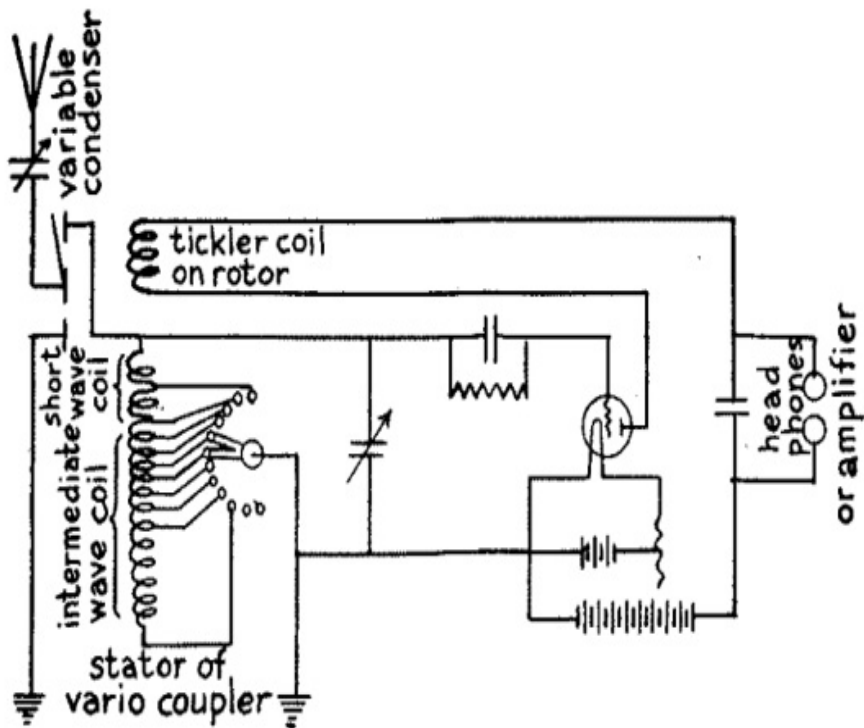

FIG. 58.—Wiring Diagram for Intermediate Wave Receptor with one Variocoupler and 12 section Bank-wound Inductance Coil.
When the variocoupler is adjusted for receiving very long waves the rotor sets at right angles to the stator and, since when it is in this position there is no mutual induction between them, the tickler coil serves as a loading coil for the detector plate oscillation circuit. Inductance coils for short wave lengths are usually wound in single layers but *bank-wound coils*, as they are called are necessary to get compactness where long wave lengths are to be received. By winding inductance coils with two or more layers the highest inductance values can be obtained with the least resistance. A wiring diagram of a multipoint inductance coil is shown in *Fig. 58*. You can buy this intermediate wave set assembled and ready to use or get the parts and connect them up yourself.
The Parts and How to Connect Them Up.--For this regenerative intermediate wave set get: (1) one 12 section triple bank-wound inductance coil, (2) one variometer, and (3) all the other parts shown in the diagram Fig. 58 except the variocoupler. First connect the free end of the condenser in the aerial to one of the terminals of the stator of the variocoupler; then connect the other terminal of the stator